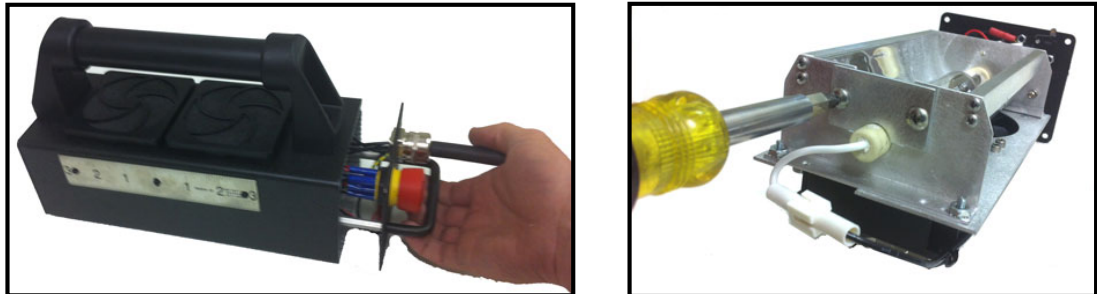

Figure 4
2. Slide the lamp cartridge out of the housing. On the end opposite the cable is the lamp retaining clip. Remove the clip by taking out the two screws as seen in **Figure 4**